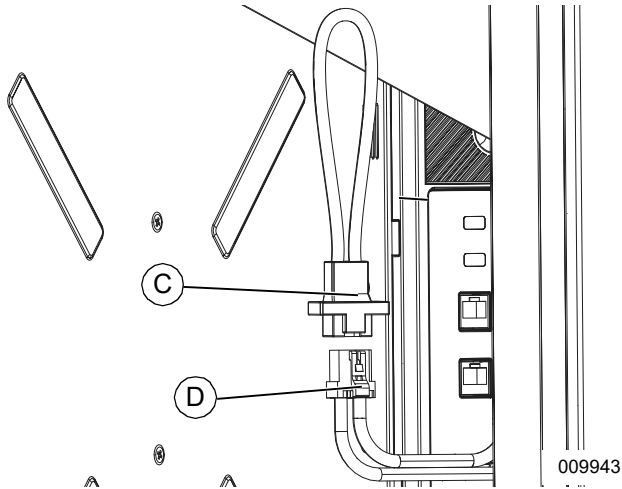

Figure 4-35. Installing Loop Jumper
- See Figure 4-35. Install loop jumper (C) on every unused power cord connector (D).